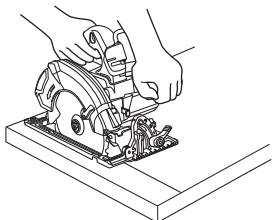
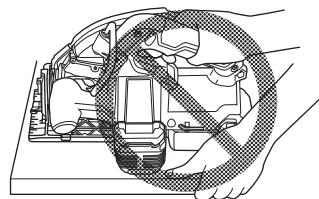

Fig. 2
Fig. 3
4. Place the wider portion of the saw base on that part of the work piece which is solidly supported, not on the section that will fall off when the cut is made. As examples, Fig. 2 illustrates the RIGHT way to cut off the end of board, and Fig. 3 the WRONG way. If the work piece is short or small, clamp it down.